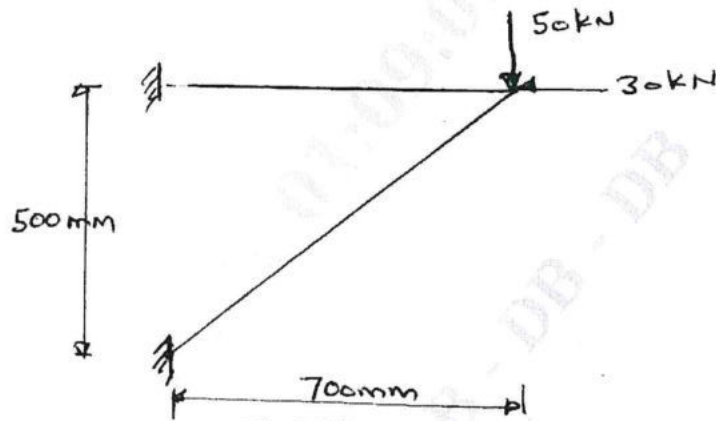

Fig.Q4(b)
b. For the two bar truss shown in Fig.Q4(b), determine nodal displacements element. Take $E = 200 \text{ GPa}$, area of each bar = 1000 mm^2